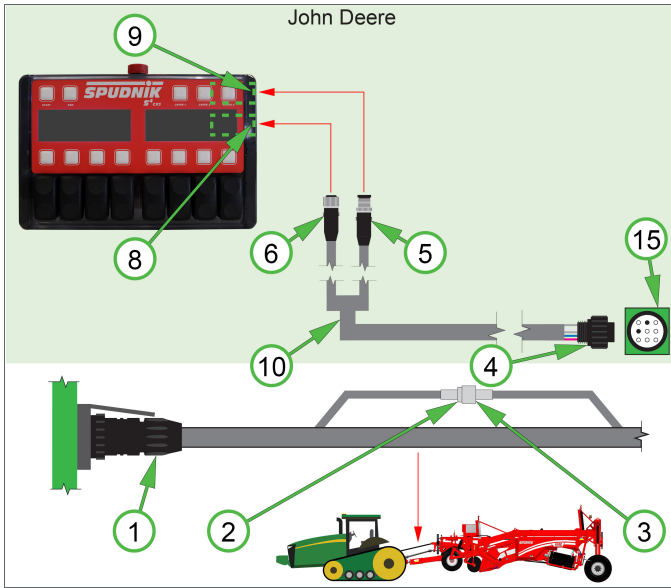
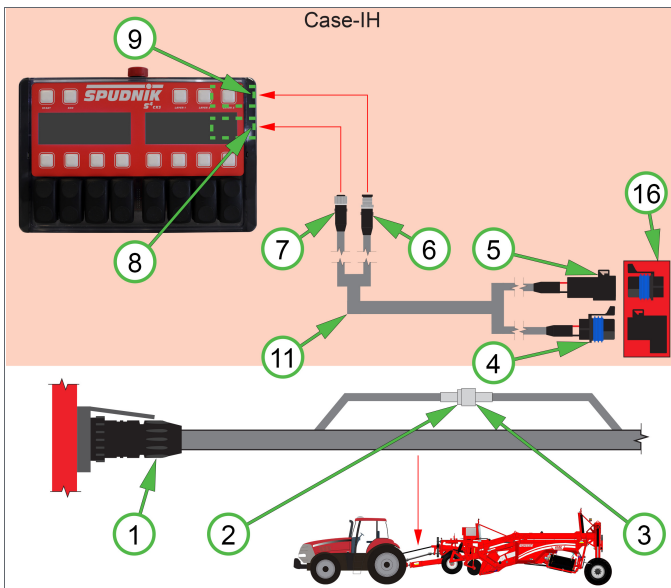
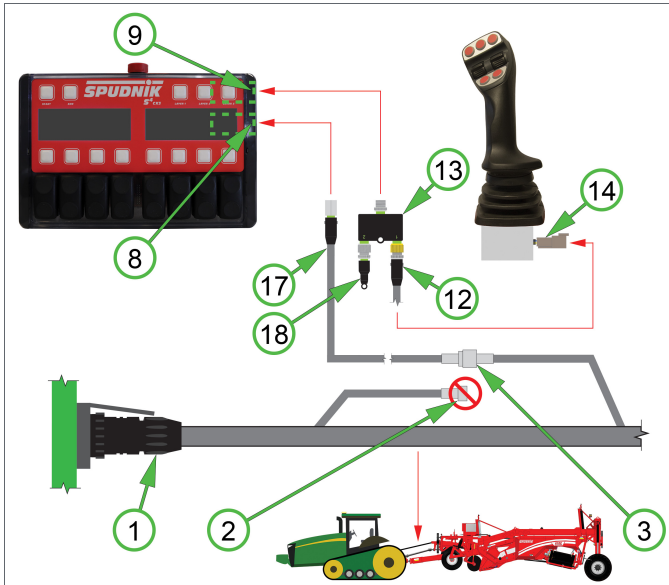

Figure 6
Figure 7
Figure 11
With the CX3 controller mounted in the tractor, configure the ISOBUS connectivity as appropriate for the towing tractor and the desired functionality. (See [\[Info\]](#), and Figure 6 through Figure 11)
Legend for Figure 6 through Figure 11: (1) Tractor ISOBUS, (2) CAN Disconnect B, (3) CAN Disconnect A, (4) Connector C1, (5) Connector C2, (6) Connector C3, (7) Connector C4, (8) CAN In [Pin], (9) CAN Out [Socket], (10) CAN Bus Cable PN 440035, (11) CAN Bus Cable PN 440036, (12) CAN Bus Cable PN 440401, (13) Spudnik "Y" Adapter PN 440021, (14) Joystick CAN Connector [Pin], (15) In-cab ISOBUS Connector 9-Pin, (16) In-cab ISOBUS Harness [Inline], (17) CAN Bus Cable PN 440109, (18) CAN Bus Terminator PN B94.01736.
In-Cab ISOBUS connection (with CX3). (See [\[Info\]](#), Figure 6, and Figure 7)
Back-window ISOBUS connection (with CX3 & Joystick). (See Info and Figure 11)